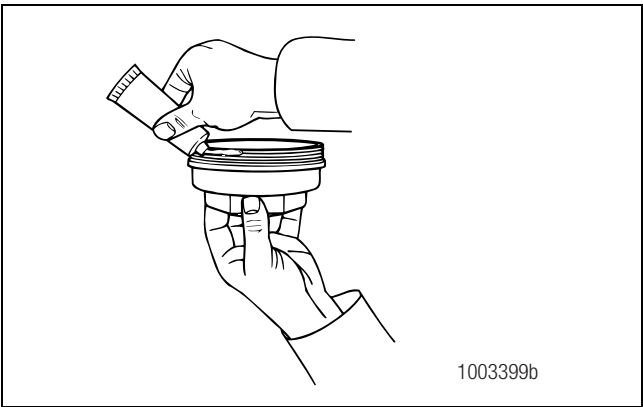

Figure 6.57
2. Apply a continuous 1/8-3/16-inch (3-5 mm) bead of RTV sealant to the outside first thread around the entire circumference of the hubcap. You must use Meritor part number 2297-Z-7098 RTV sealant, Loctite® adhesive sealant number 5699. Figure 6.57.